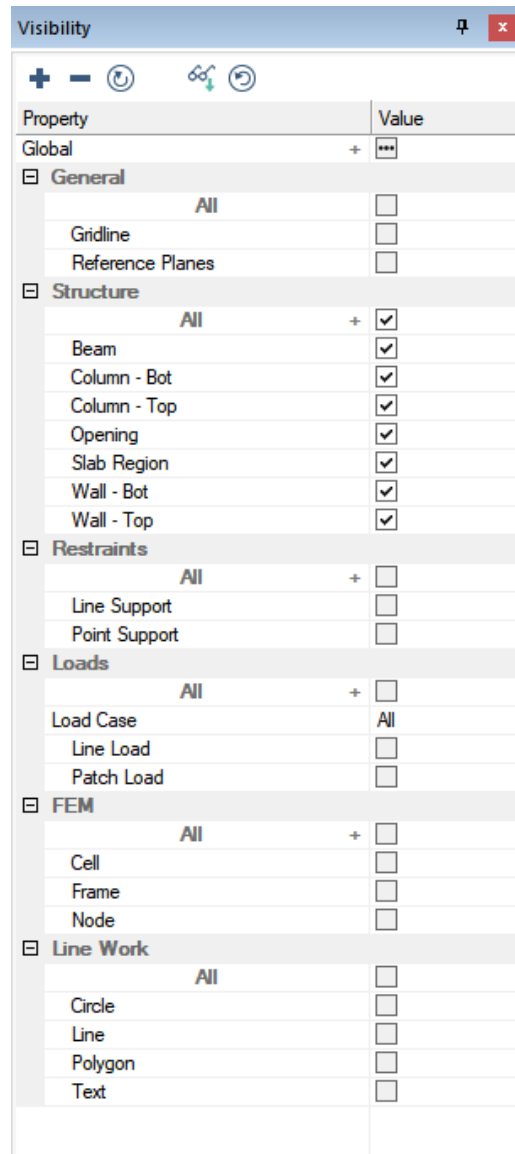

FIGURE 9-3
- Go to the *Visibility Grid* and make the selections as shown in **FIGURE 9-3**.